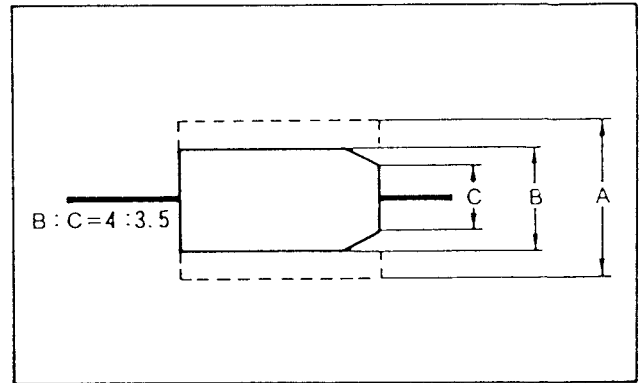

Fig. III-58
- (5) Slightly turn the No. 6 guide clockwise so that $B:C = 4:3.5$. (See Fig.III-58.)